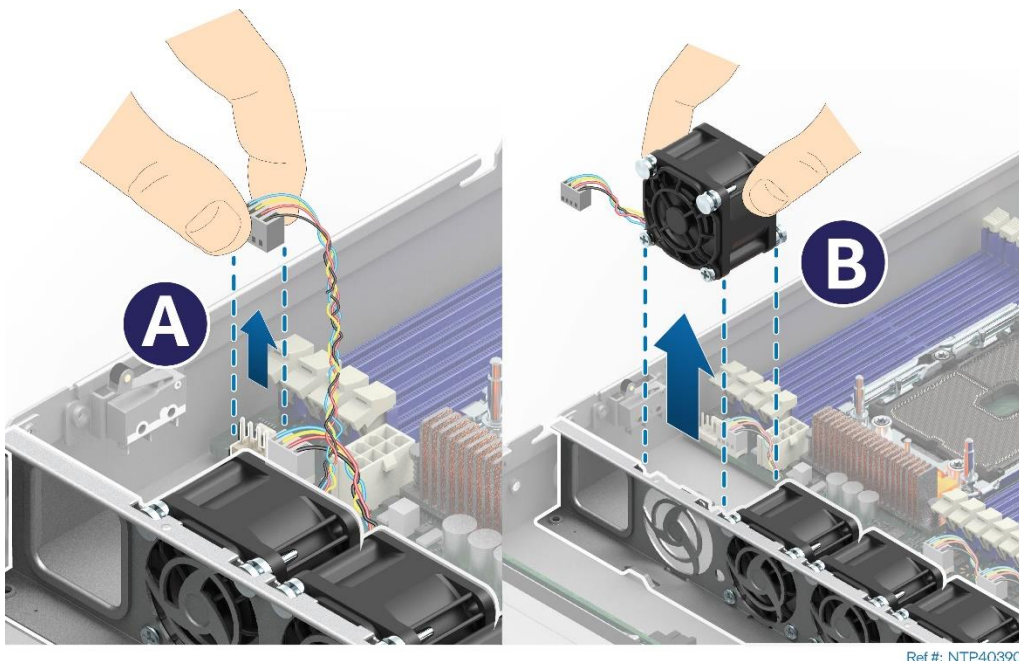

Figure 62. System fan assembly removal
3. Identify, locate, and remove the faulty system fan (see Figure 62).